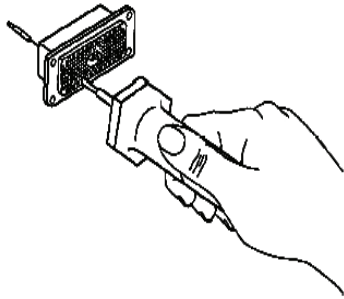

Figure 23. Broken Wire Contact Removal
h. Push contact completely out of rear of connector before disengaging removal tool (Figure 23).